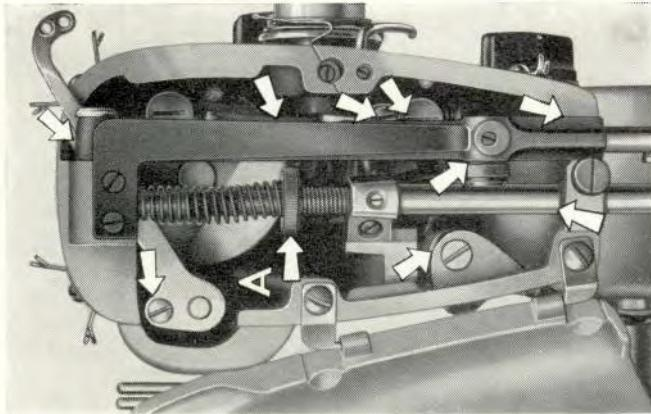

Fig. 64.
Other places where the machine needs oiling occasionally are shown by arrows in Figs. 64 and 65. To get at them you pull open the cover plates at the left end of the upper arm and at the back of the machine (with the spool pins fixed to it). The jam-proof shuttle *never* needs oiling — one of the reasons why your Husqvarna Automatic is unusually easy to look after.
2. Feed dog may be lowered. Drop feed knob (25) should be turned so that the stitch symbol is in front.
3. Insufficient pressure on the pressure foot. Increase the pressure by turning the regulating screw (A, Fig. 64) to the right.
6. Insufficient pressure on the presser foot, especially when sewing thick fabrics. Turn the pressure regulating screw (A, Fig. 64) to the right.
3. Presser foot pressure too great. Turn regulator screw to left (A, Fig. 64)
1. Too much pressure on the presser foot. Reduce by turning the pressure regulating screw (A, Fig. 64).